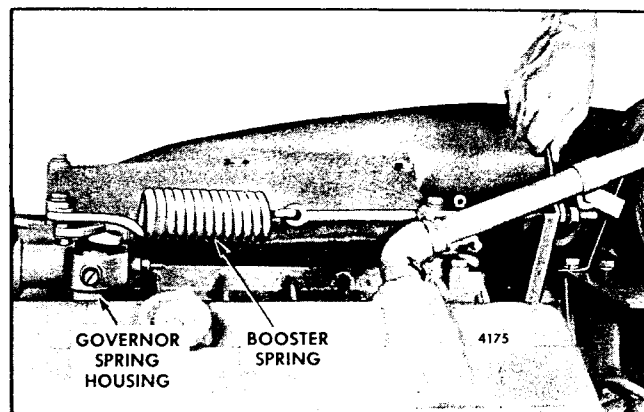

Fig. 14 - Adjusting Booster Spring
1. Refer to Fig. 14 and disconnect the booster spring and the stop lever retracting spring.
1. Refer to Fig. 14 and loosen the booster spring retaining nut on the speed control lever. Loosen the lock nuts on the eye bolt at the other end of the spring.